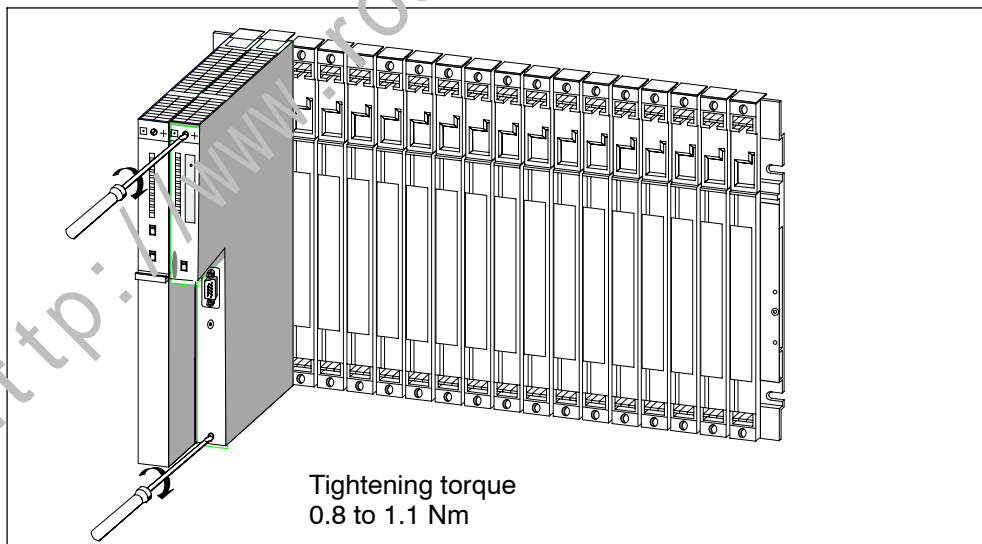

Figure 2-5 Screwing the Modules in Place
5. Tighten the module screws top and bottom with a torque of 0.8 to 1.1 N/m (see Figure 2-5). Triple-width modules are secured with two screws at the top and at the bottom.